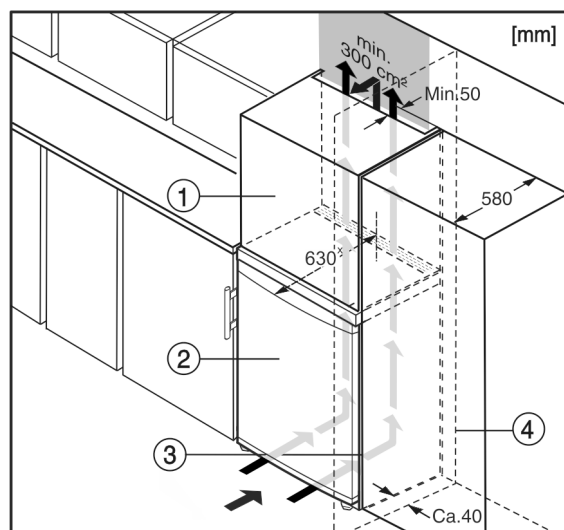

Fig. 5
- (1) Top cupboard (3) Kitchen cabinet
(2) Appliance (4) Wall
The appliance can be built into kitchen units. A top cupboard Fig. 5 (2) can be added above the appliance in order to bring the appliance Fig. 5 (1) up to the height of the fitted kitchen units.
When fitting kitchen cupboards around the appliance (max. depth 580 mm), you can install the appliance directly next to the kitchen cupboard Fig. 5 (3). The appliance protrudes 34 mm * to the side and 50 mm * in the centre of the appliance in relation to the kitchen cupboard front.
If the appliance is set up with the hinges next to a wall Fig. 5 (4), the distance between the appliance and the wall must be at least 40 mm. This is how far the handle protrudes when the door is open.